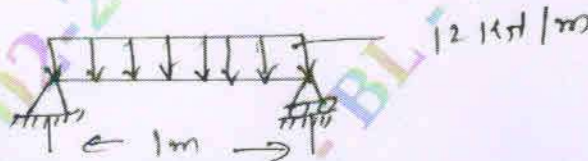

Fig. Q8 (b)
b. Fig. Q8 (b) shows a simply supported beam subjected to a uniformly distributed load. Obtain the maximum deflection. Take Young's modulus $E = 200 \text{ GPa}$ and moment of inertia $I = 2 \times 10^6 \text{ mm}^4$.